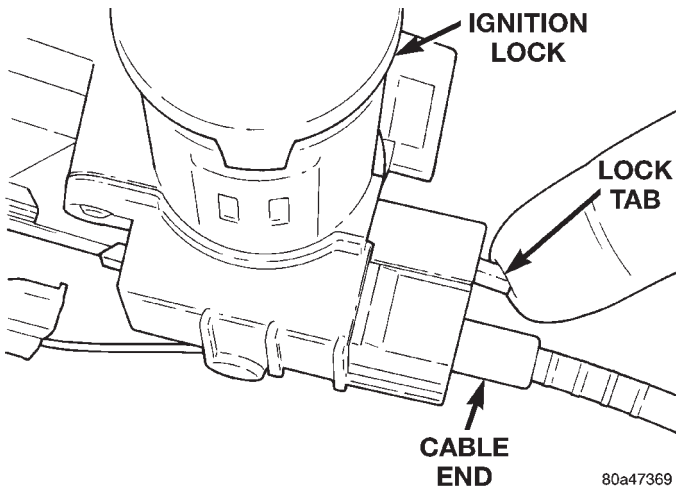

Fig. 45 Brake/Park Interlock Cable
(1) Remove lower steering column cover. Refer to Group 8E, Instrument Panel and Gauges, for proper procedure.
(2) Remove lower steering column shroud. Refer to Group 19, Steering, for proper procedure.
(3) Remove tie strap near the solenoid retaining the brake transmission interlock cable to the steering column.
(4) Disengage wire connector from solenoid.
(5) With the ignition removed or in the unlocked position, disengage lock tab holding cable end to steering column (Fig. 45).
(6) Pull cable end from steering column.
(7) Remove the floor console and related trim. Refer to Group 23, Body, for proper procedure.